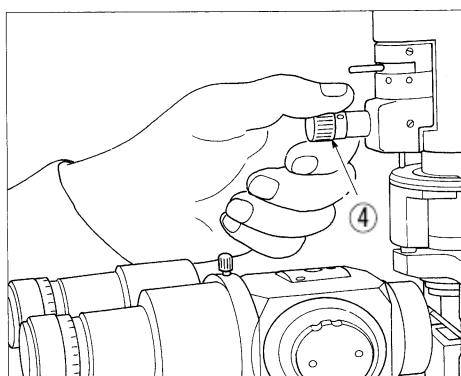

Fig. 22: (4) Slit Rotation Control Lever &
- The projected slit image is rotated continuously around the optical axis vertically and horizontally by the lever and the knob(Fig. 22(4)).
Click stops for slit angles is provided at 45°, 90° and 135° (Fig. 22(4)).